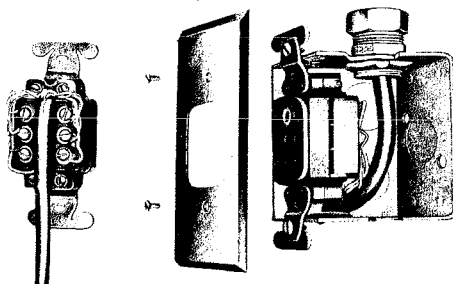

Fig. 7 — 391A Jack Unmounted and 391A Jack Mounted in Outlet Box
5.06 The 391A jack in outlet box (Fig. 7) is mounted as follows:
1. Connect station wire to jack, and dress as shown in Fig. 7.